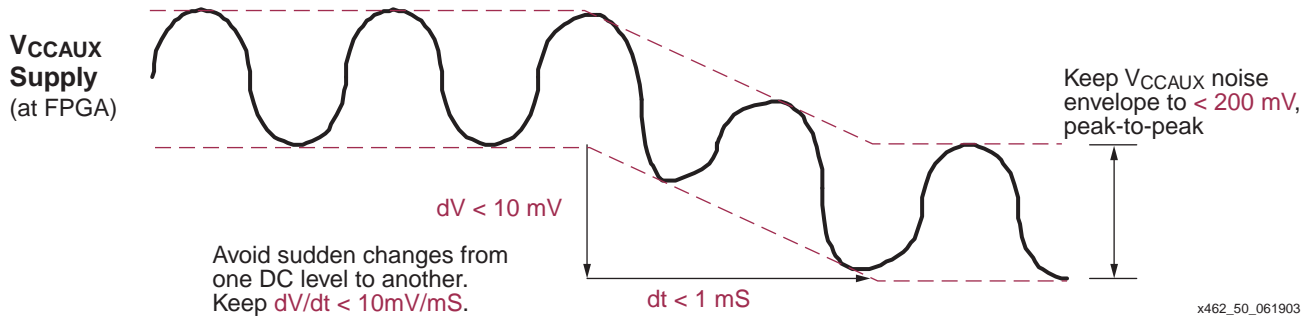

Figure 3-50: Recommended VCCAUX Supply Considerations Avoid Voltage Droop
1. Limit changes on the  $V_{CCAUX}$  power supply or ground potentials to less than 10 mV total or 10 mV in any 1 ms interval, as shown in Figure 3-50. This recommendation allows the DCM to properly track out the change.
- Limit the noise at the power supply to be within 200 mV peak-to-peak, as shown in Figure 3-50.